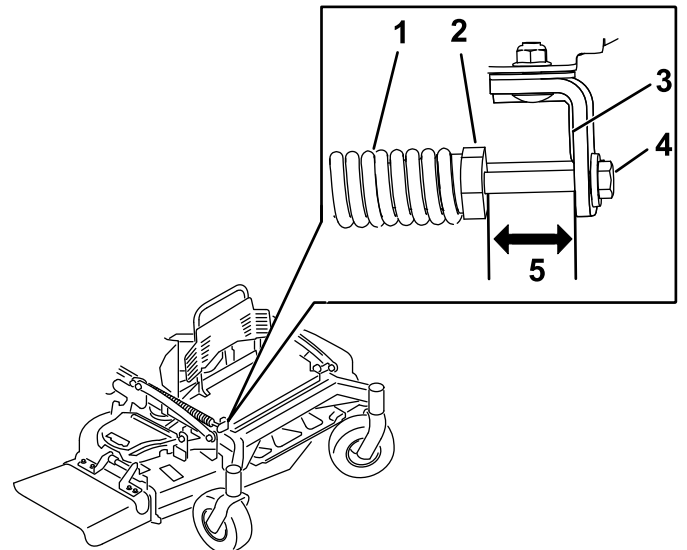

Figure 92
2. Check the distance between the spring nut and the rear side of the welded mount bracket (Figure 92).
3. Ensure that the length is between 47 to 50 mm (1.8 to 2 inches) as shown in Figure 92.
4. If needed, adjust the distance by adjusting the bolt on the front of the mount bracket (Figure 92).